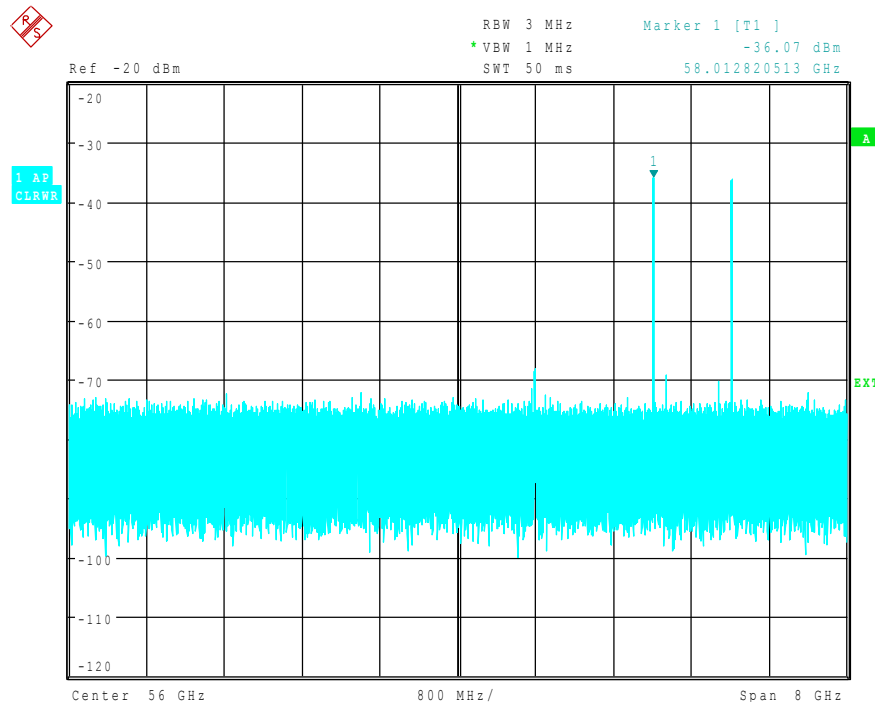

Fig. 4.41 Spectrum at the multiplier output recorded with an external mixer
- The display shown in Fig. 4.41 is obtained.
The spectrum represented in Fig. 4.41 contains the input signal and also a large number of unwanted mixer products. Two functions are provided by the R&S FSP to identify real input signals. The implemented methods are described in section "Signal Identification" on page 4.277. The *AUTO ID* function is used in this example.